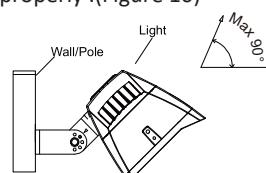

figure 10
- Step 3: Connect the fixture to the bracket and tighten the screws; connect the wires properly .(Figure 10)
- Notice: Adjustable angle refer to Figure 10.